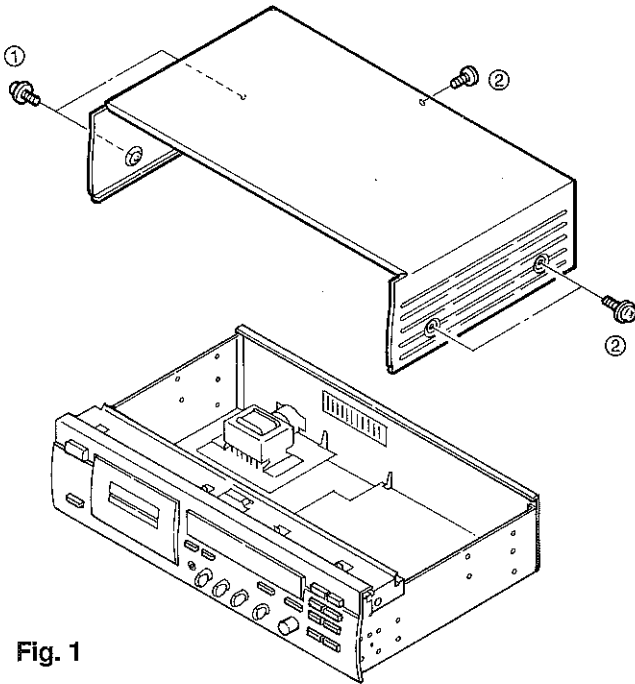

Fig. 1
- a. Remove 5 screws (①, ②) in fig. 1.